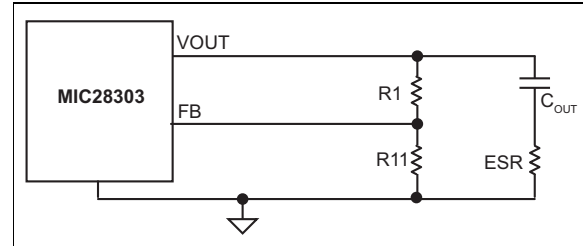

FIGURE 5-5: Enough Ripple at FB.
- Enough ripple at the feedback voltage due to the large ESR of the output capacitors (Figure 5-5):